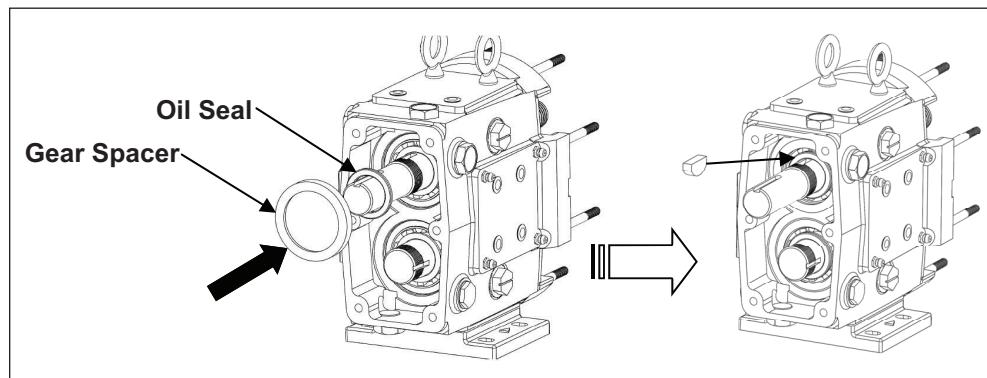

Figure 52. Rear Oil Seal and Gear Key Installation
7. Apply a light film of lubricant to the inside and outside diameters of the rear oil seals and install them into the back of the gear case with the spring side facing outward toward the gear. Install the gear spacers onto the shaft and place the gear keys into the shaft key slots (*Figure 52*).